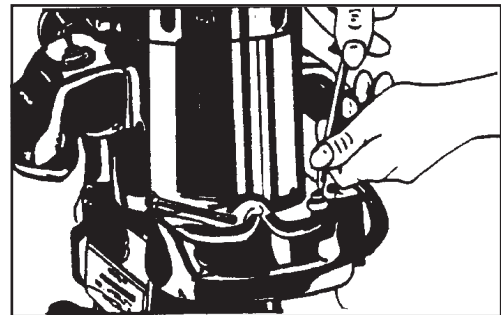

Figure 10
1. Remove the two screws that hold the light guard to the housing. See figure 10.